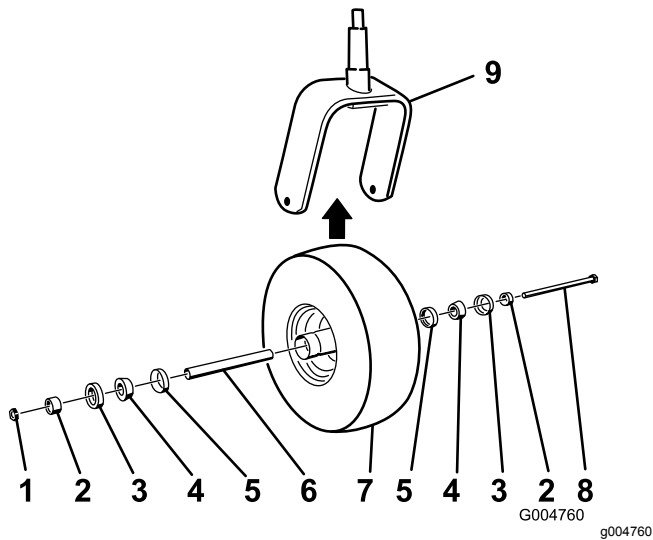

Figure 70
2. Remove the locknut from the bolt (Figure 70).
5. Assemble the caster wheel by pushing the cone bearings and seals, packed with grease, into the wheel hub, positioned as shown in Figure 70.